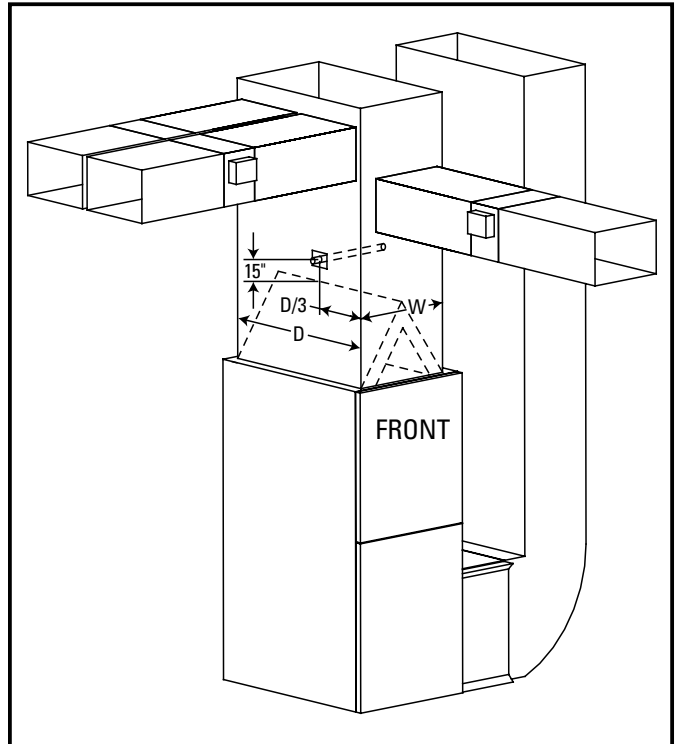

FIGURE 3 – DISCHARGE AIR SENSOR LOCATION
- Be sure that the tip of the sensor is located at least 15 inches downstream from the leaving air side of the evaporator in the discharge plenum, and $\frac{1}{3}$ of the depth ($D/3$) of the plenum (D) from the front of the plenum (the front is the side with the furnace or CB access doors), and centered side to side. Move the adjustable bracket along the length of the discharge air sensor to achieve proper sensor tip location (tip of sensor to be located at $W \div 2$). The sensor can be inserted from any side of the plenum, as long as the tip of the sensor is in the correct position. See **Figure 3**.